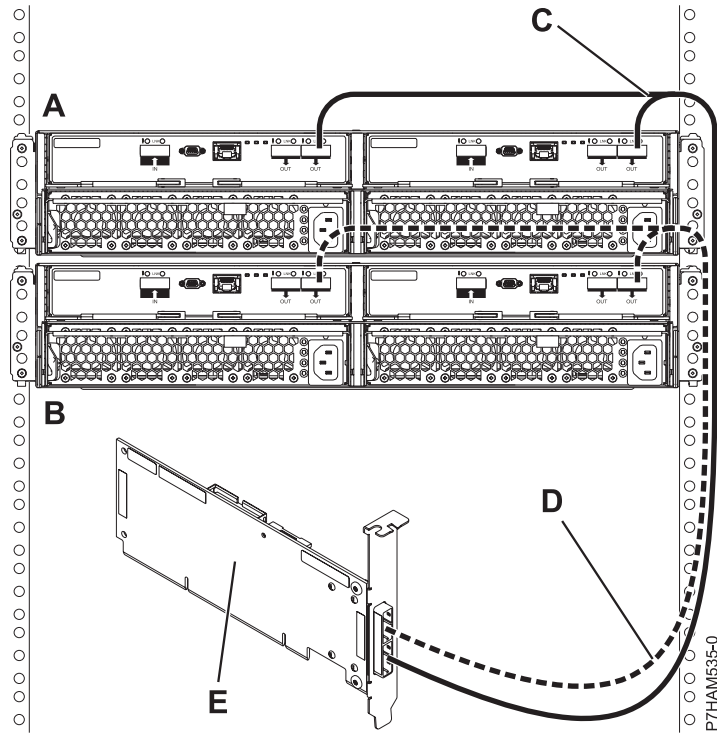

Figure 36. Mode 1 connection of two 5887 disk drive enclosures by using YO cables to a single SAS adapter
10. Perform the mode 1 connection of two 5887 disk drive enclosures (**A and B**) by using YO cables (**C and D**) to a single SAS adapter (**E**) as shown in Figure 36 on page 78.